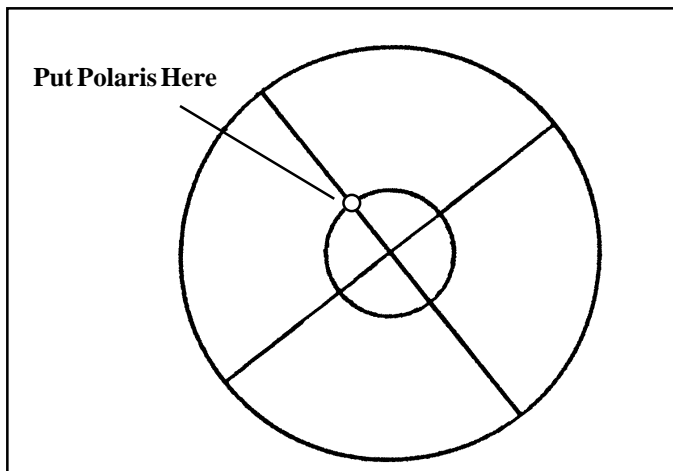
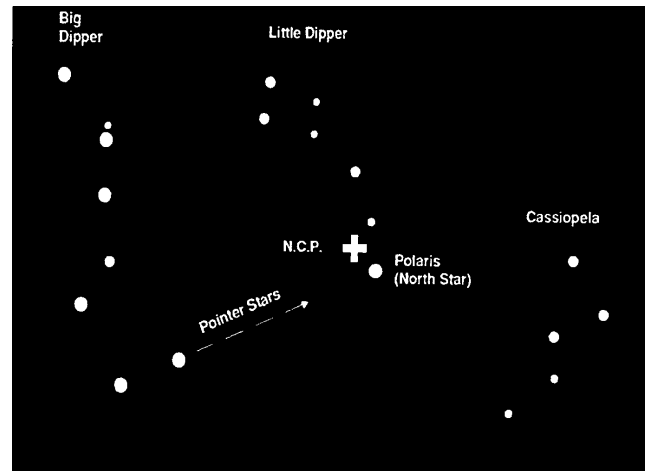

Figure 4-8
Figure 4-9
3. Rotate the polar scope until the small circle (located along the inner ring of the reticle) is positioned towards the celestial pole (see Figures 4-8 and 4-9). You may need to loosen the nylon tension screws on the polar finder bracket.
In this example the North Celestial Pole (NCP) is located approximately in the "11 O'clock" position relative to Polaris (Figure 4-9). Therefore, the polar finder reticle must be rotated to match the view as seen through the polar axis finder (Figure 4-8). Now, simply adjust the telescope's latitude and azimuth controls until Polaris is positioned in the small circle.